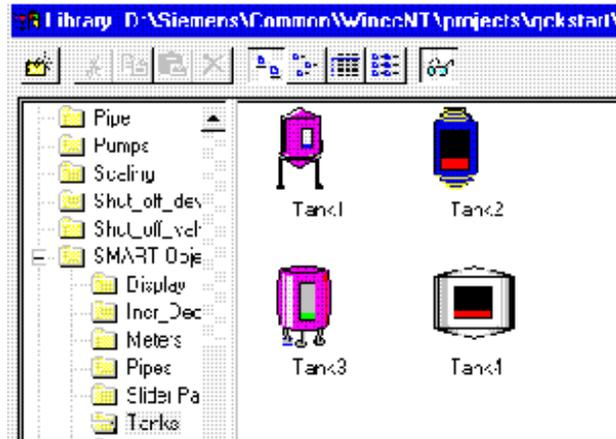

Figure 2.20 WinCC Project "QckStat"; Toolbar Icons from the Graphics Editor's Library
2. To see an icon preview of the objects, press the "glasses" icon in the toolbar of the library. See Figure 2.20.